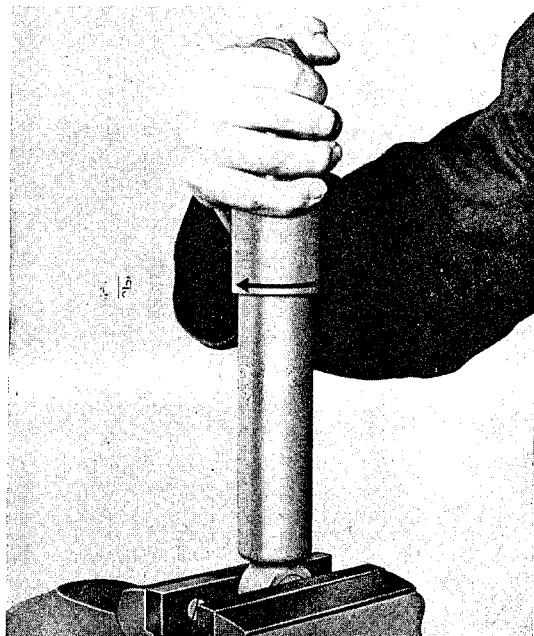

Fig. 62
4. Starting from the original position, turn $\frac{1}{2}$ or more revolutions clockwise - depending on the extent of the shock absorbing force to be checked - then stretch the shock absorber somewhat apart in order to be able to disengage the adjusting device (see fig. 62) (Max. readjustment 4 revolution halves).